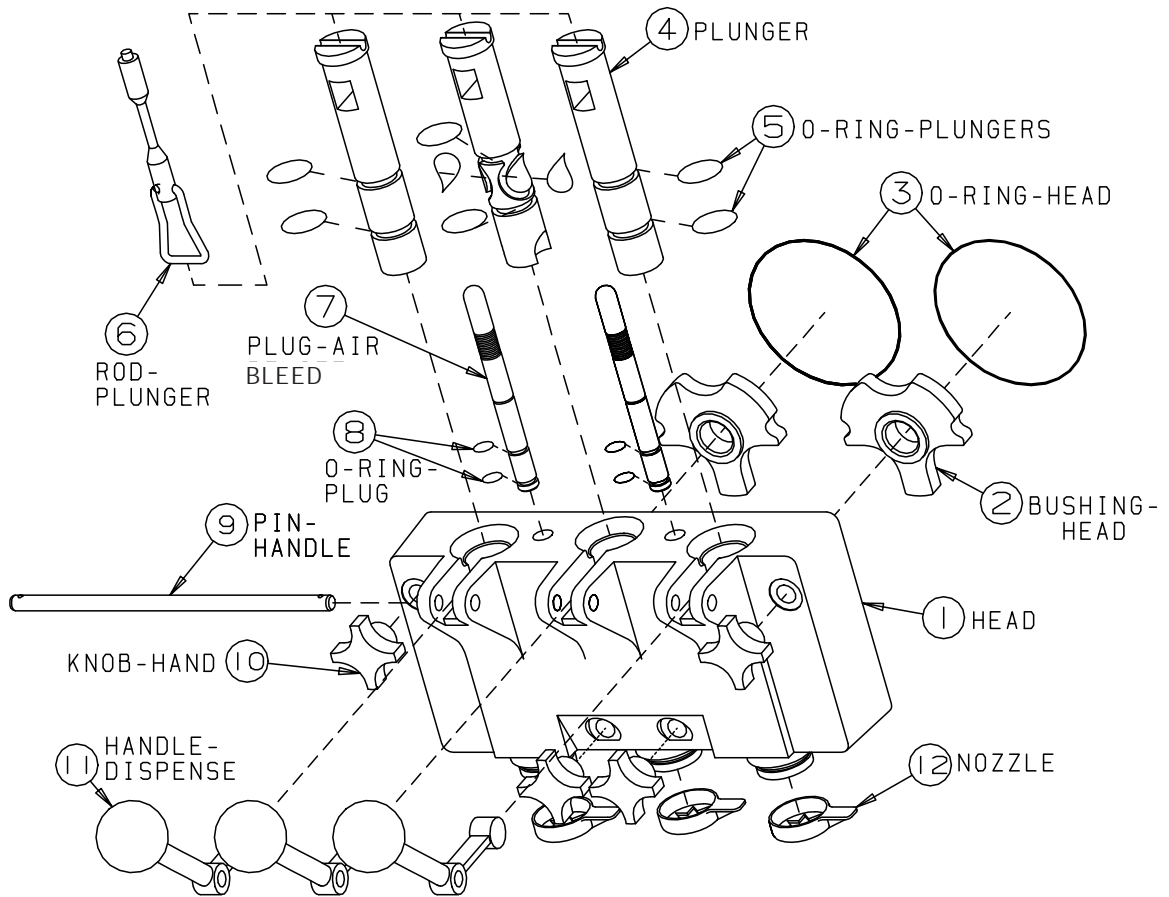

Figure 6-2 Head Assembly
2. Remove the plunger rods (6, figure 6-2) by lifting up and swinging the bottom out and down. Remove hand knobs (10) and pull the dispensing head (1) straight out.
6. Remove the air bleed plugs (7, figure 6-2) and remove the two O-rings (8) on each plug. (See figure 6-2)